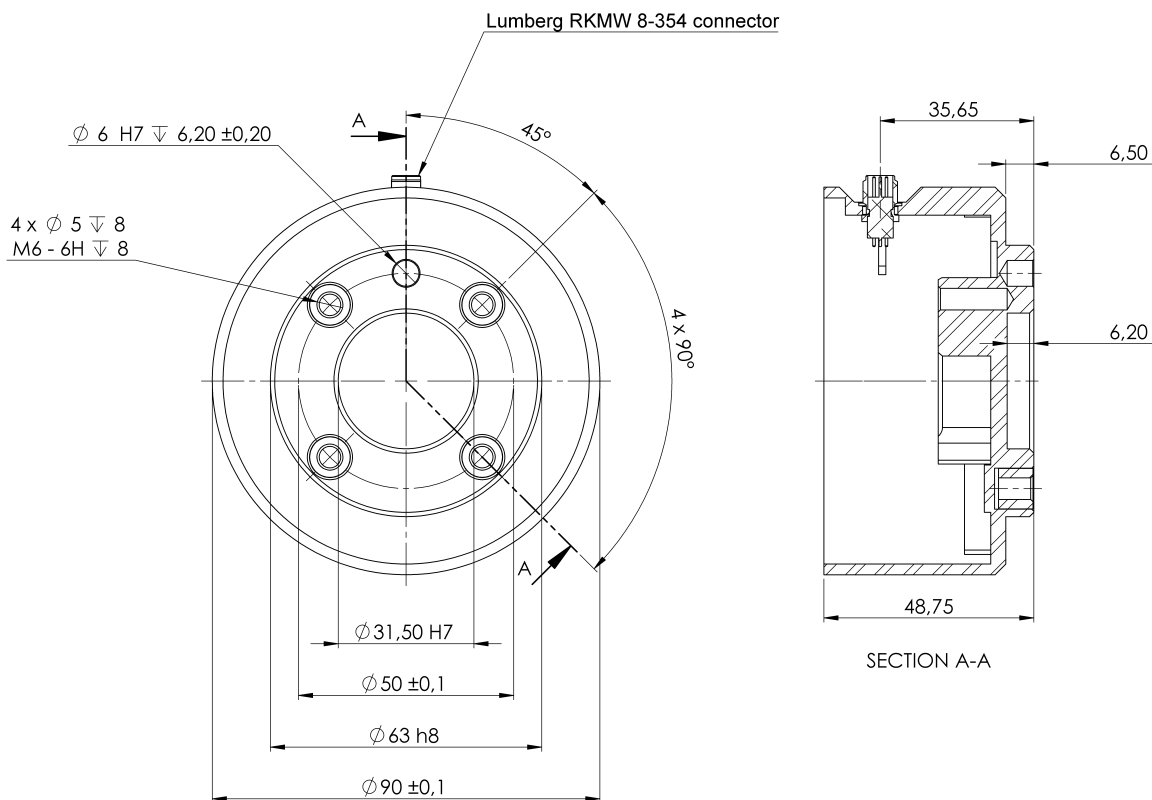

Figure 4.2: The tool output flange (ISO 9409-1-50-4-M6) is where the tool is mounted at the tip of the robot. All measures are in mm.
**Tool** The robot tool flange has four M6 thread holes for attaching a tool to the robot. The M6 bolts must be tightened with 8 N m, strength class 8.8. For accurate tool repositioning, use a pin in the ∅6 hole provided. Figure 4.2 shows dimensions and hole pattern of the tool flange. It is recommended to use a radially slotted hole for the pin to avoid over-constraining, while keeping precise position.